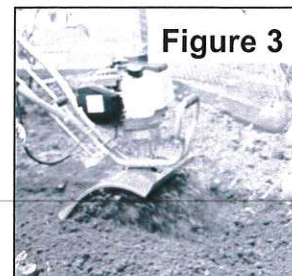

Figure 3
Move your Tiller slowly back and forth, as you would a vacuum cleaner. Work the same area over and over until you've dug to your desired depth. (Figure 3)
4. Only after you have removed the outer set of tines, then remove the retaining pins from the inner tines and remove the inner tines from the transmission axle (**Figure 3**)